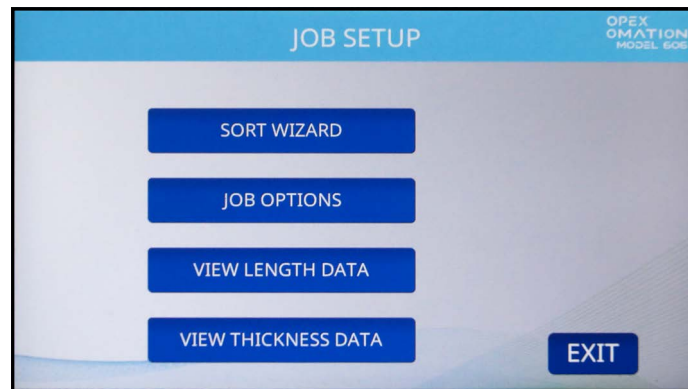

Figure 6-8: Job Setup screen
3. With sorting features, the **JOB SETUP** screen will be displayed (Figure 6-8). The options on this screen are described below. For this process, press **JOB OPTIONS**.